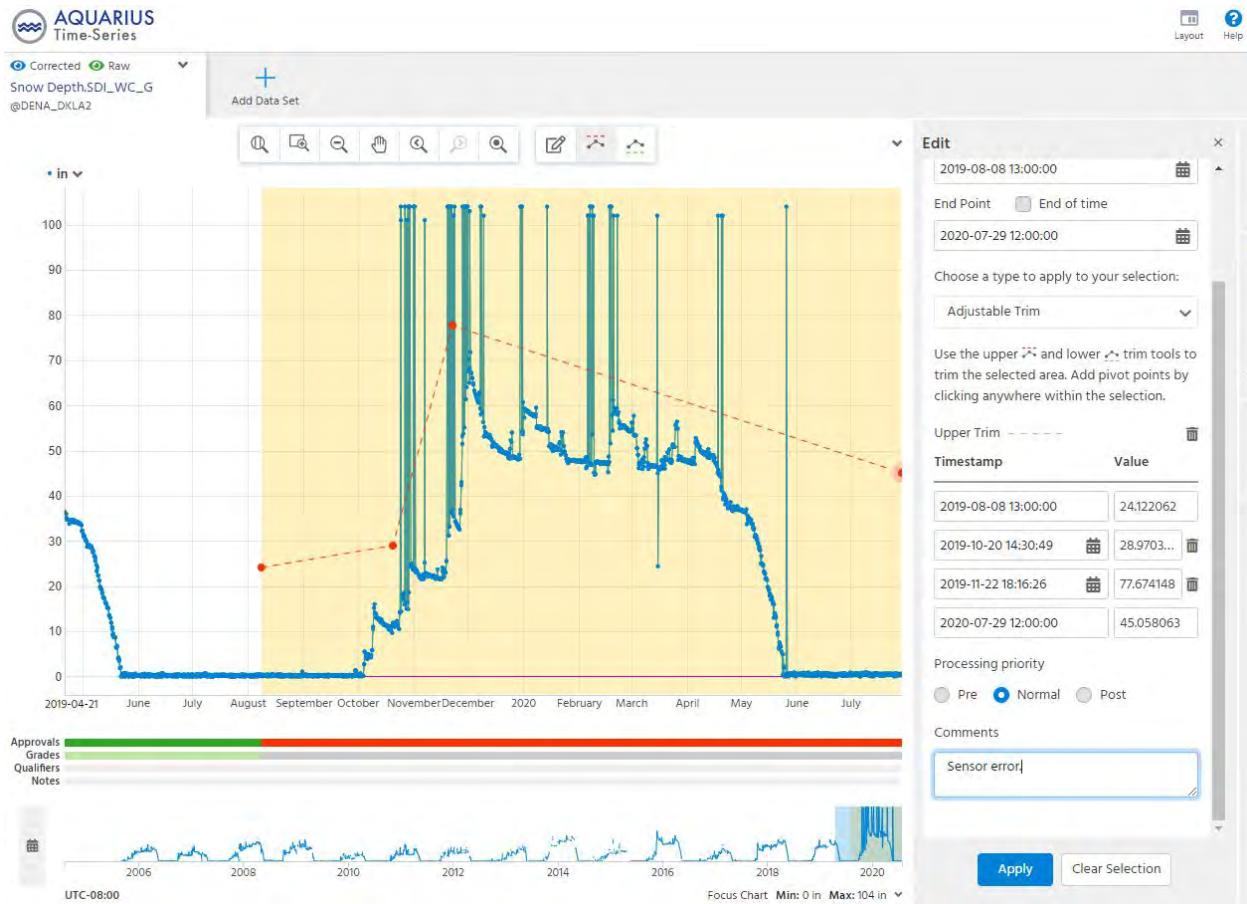

Figure SOP 11-24. Data corrections for a snow depth time series. The adjustable trim edit action suppresses all values above the user-defined pivot points.
4. Click within the selected area to add pivot points (Figure SOP 11-24). Drag and drop the pivot points for fine-tuning.